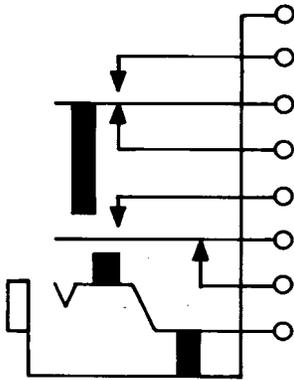

Fig. 6—476A Jack
2.02 476A: This single-mounted jack (Fig. 6) is designed to be used with the 47 or similar-type plugs. This jack is intended to be mounted with the springs in a vertical plane. The 476A jack is used in order wire telephone set circuits at ac powered stations. This jack is used in J68643 voice frequency telephone repeaters at auxiliary repeater stations of the L1 Carrier Telephone System.